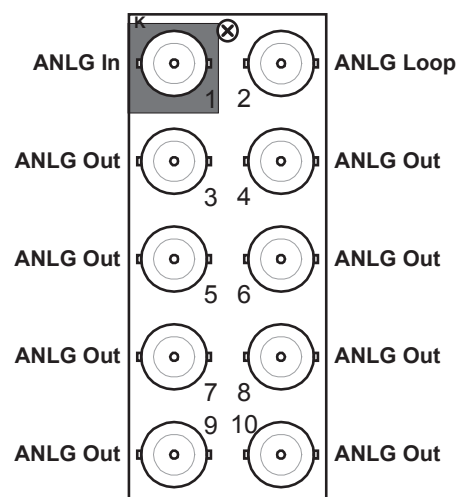

Figure 2.3 Cable Connections for the 8310AR-032 and 8320AR-032 Rear Modules
- **8310AR-032** Rear Module — Each rear module occupies one slot and accommodates one card. This rear module provides eight outputs, and one looping output. (**Figure 2.3**)
- **8320AR-032** Full Rear Module — Each rear module occupies two slots and accommodates one card. This rear module provides one analog input, one looping output, and eight analog outputs. (**Figure 2.3**)